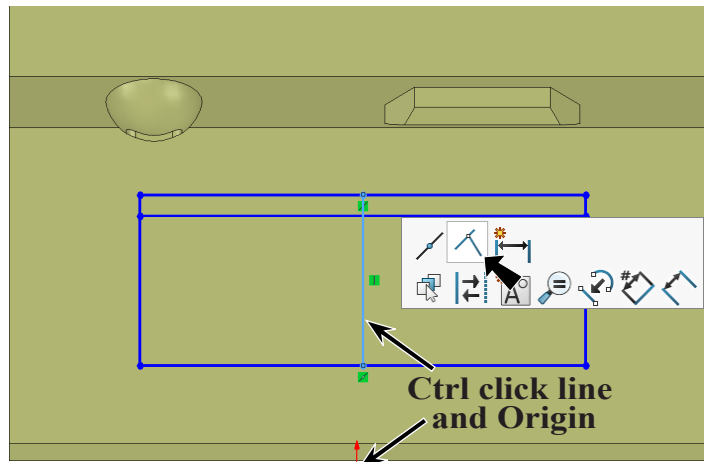
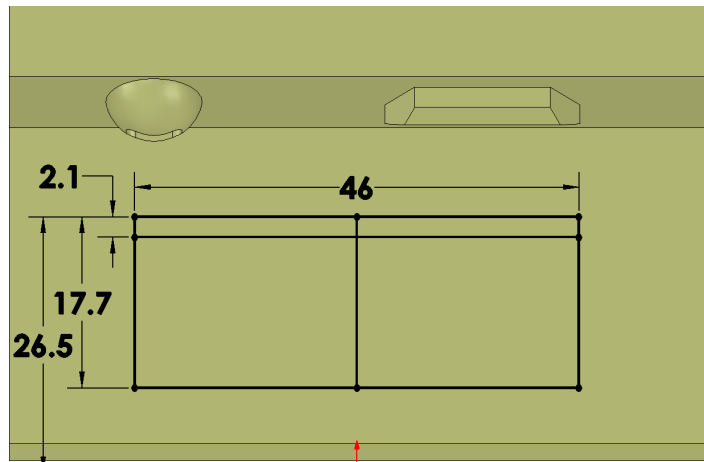

Fig. 66
Fig. 67
Step 8. **Ctrl click vertical line and Origin**  to select both. Release Ctrl key and click **Make Coincident**  on the context toolbar, Fig. 66.
Step 9. Click **Smart Dimension**  (S) on the Sketch toolbar.
Step 10. Add dimensions, Fig. 67.